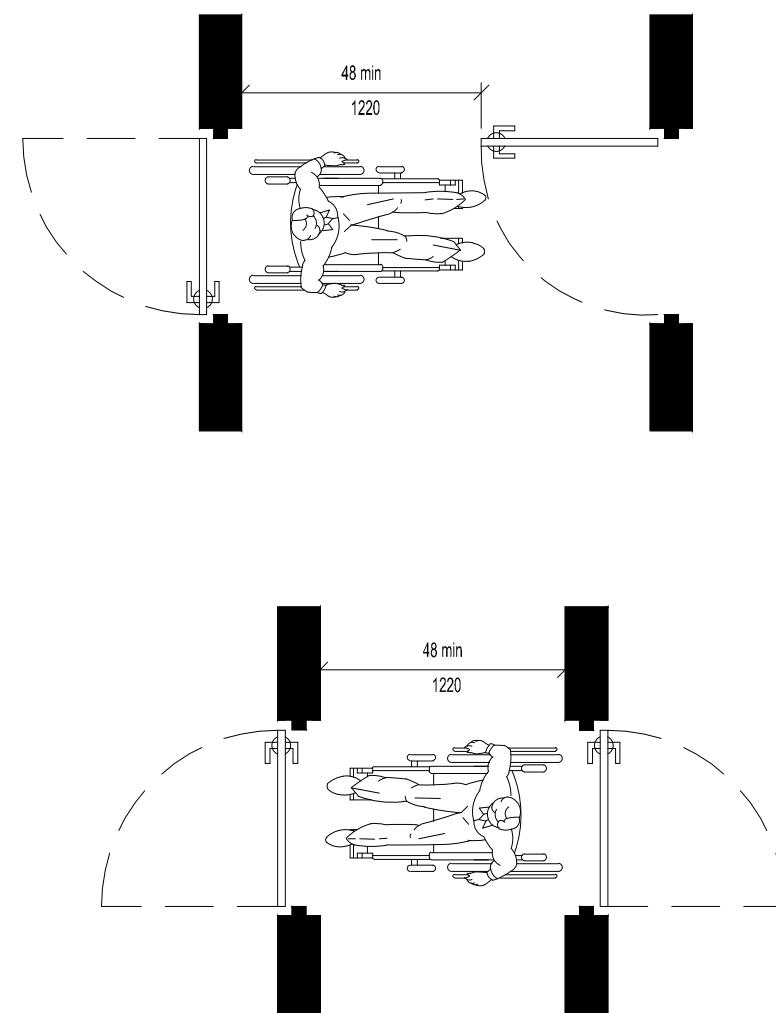

Fig. 26
4.13.7 Two Doors in Series. The minimum space between two hinged or pivoted doors in series shall be 48" (1220mm) plus the width of any door swinging into the space. Doors in series shall swing either in the same direction or away from the space between the doors (see Fig. 26).